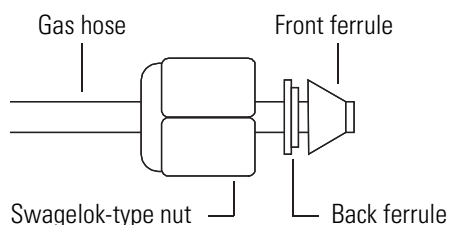

Figure 1-29. Proper orientation of the Swagelok-type nut and two-piece ferrule
1. Connect an appropriate length of 1/8-in ID copper or stainless steel tubing with a brass Swagelok-type 1/8-in nut (P/N 00101-15500) and a 2-piece brass 1/8-in ID ferrule [P/N 00101-08500 (front), P/N 00101-2500 (back)] to the Helium gas inlet. See Figure 1-29 for the proper orientation of the fitting and ferrule.